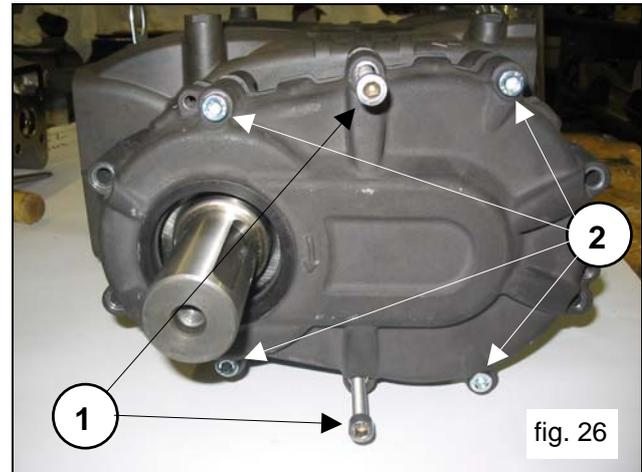

fig. 26
Position the reducer case on the pinion bearing; use two screws or two M8 threaded dowels to maintain the cover in position during the subsequent assembly operation (pos. ①, fig.26).
Facilitate the operation by simultaneously fastening some of the screws (pos. ②, fig.26).